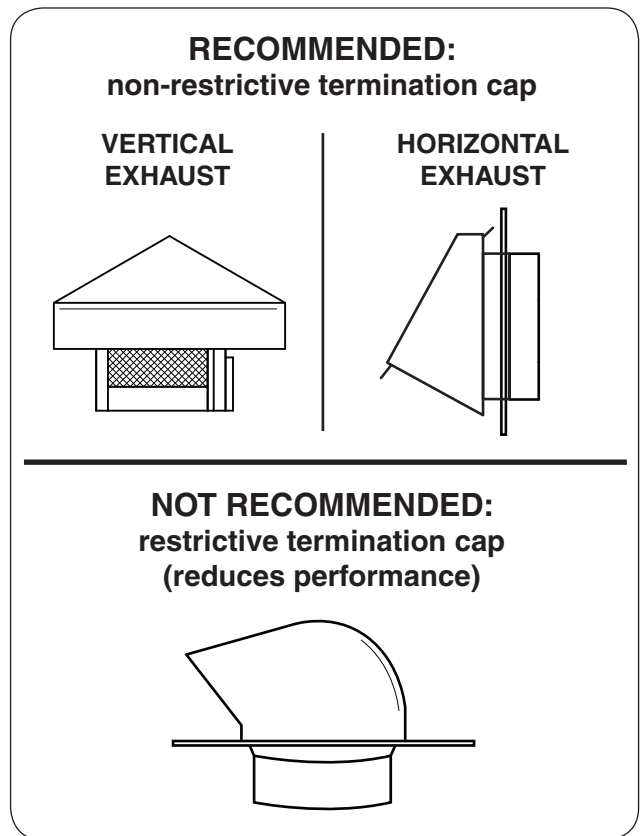

Fig. 16-3 Vent piping - termination caps
2. Using duct tape and the appropriate hardware, install a termination cap at the end of the vent piping to prevent water and debris from entering the vent hood. See Fig. 16-3.
Important: A non-restrictive termination cap is recommended. **The use of a restrictive cap is not recommended.** See Fig. 16-3.